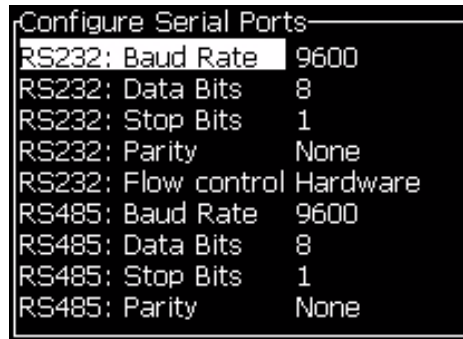

Figure 4-21: *Configure Serial Ports Dialog Box*
- 2 Select *Serial Port Configuration* option, and press the *Enter* key. The *Configure Serial Ports* dialog box appears (see Figure 4-21).